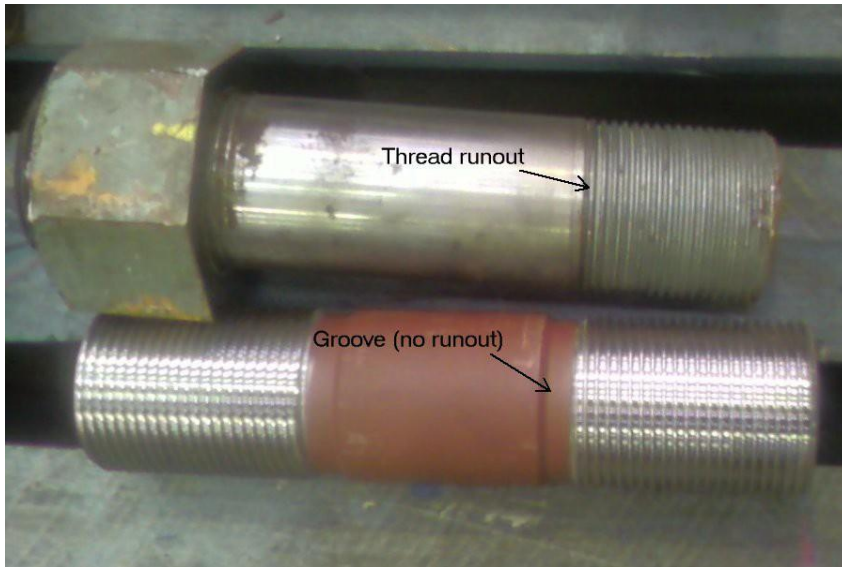

Figure 1
- Studs for use in critical applications, particularly those subject to fatigue loading should always be designed and fabricated without thread run out that is with a groove as shown in Figure 1.